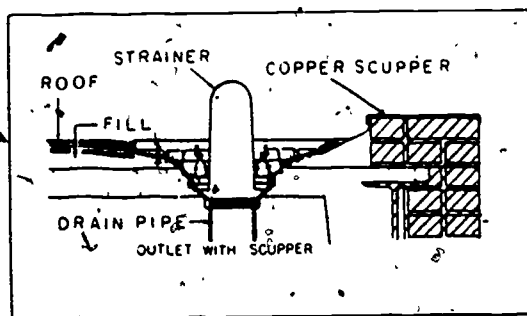

Figure 3-30. Roof drain installation
**Installation of roof drains.** When installing roof drains, you must take care to position them at the lowest roof level so that water will readily drain into them. Cut out the opening for the drain and construct the brackets or hangers that are necessary to hold the drain in a rigid position. If the drain is to be imbedded in a concrete roof, it must be installed during the time the concrete is poured. Figure 3-30 illustrates a roof drain installation.